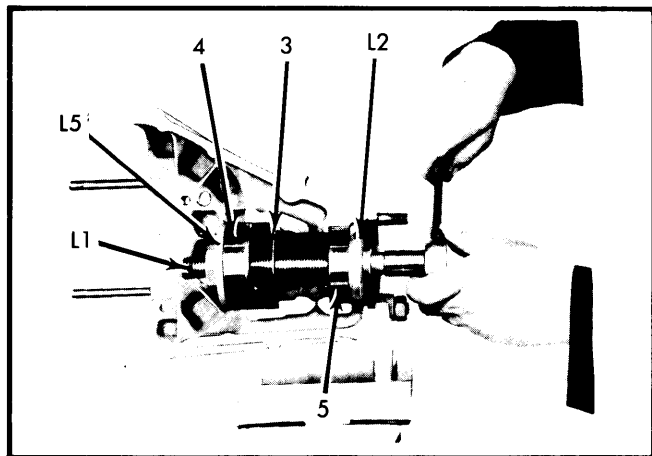

Fig. 13 Installing Drive Pinion Bearing Outer Race
4) Install drive pinion into housing with rear bearing, long spacer, front bearing and nut. Install spanner tool (hexagon sleeve with bolt tang) over end of drive pinion nut and secure to holding fixture with bolt through tang. See Fig. 13. Install drive pinion holding socket M (splined socket) over pinion spline. Torque nut to 7.2 ft. lbs. (10 N.m). Rotate drive pinion in both directions and again tighten nut. Continue operation until nut can no longer be tightened without exceeding than torque specification.